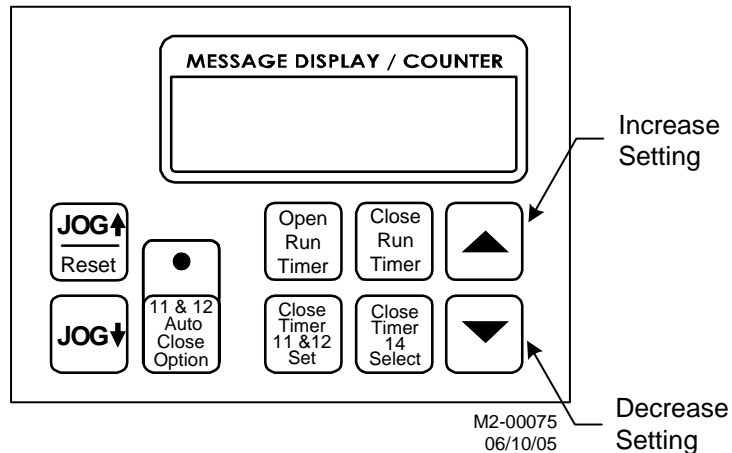

Figure 3-20: Raise/Lower Countdown Timer
2. Use the **UP** and **DOWN** arrow buttons to change the countdown time to the desired duration. The DYNALOGIX will automatically save any changes that you make. See Figure 3-20.